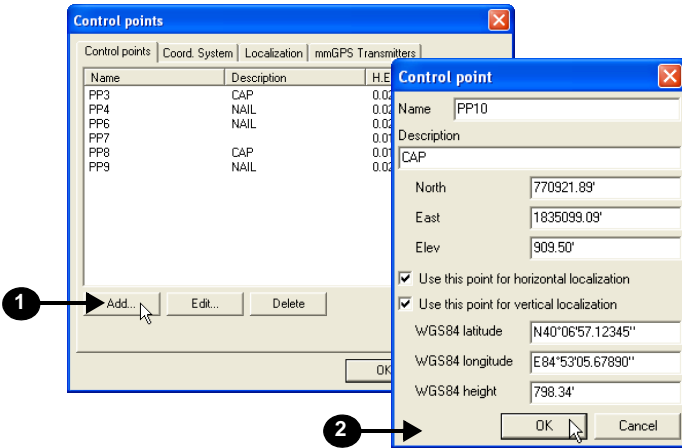

Figure 9-11. Add Control Point
1. Click **Project ► Control points** then click **Add** on the *Control points* tab (Figure 9-11).
2. Enter the following information and click **OK** (Figure 9-11):